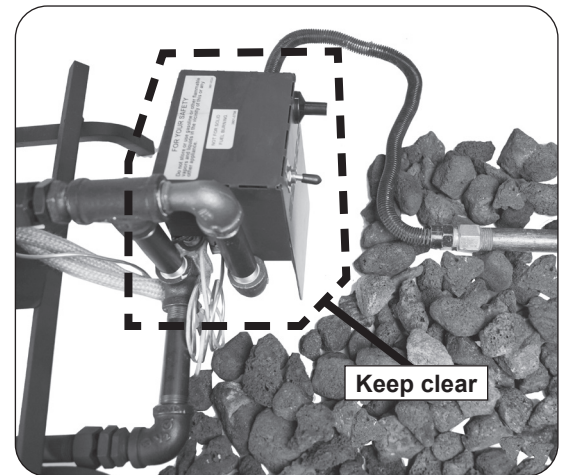

Fig. 13-3 Proper lava coals placement
**Note:** DO NOT place any lava coals on the burner system, behind it, on or within the heat shield (see Fig. 13-3).
**KEEP LAVA COALS AND ALL FOREIGN OBJECTS AWAY FROM THE PILOT ASSEMBLY, VALVE ASSEMBLY, AND HEAT SHIELD DURING MEDIA PLACEMENT AND AT ALL TIMES. SEE FIG. 13-3.**